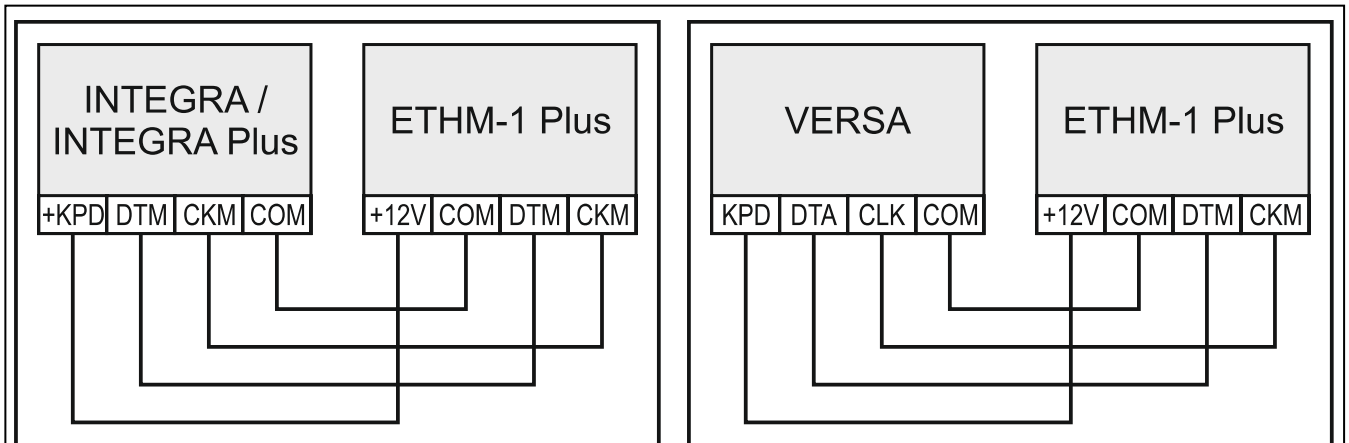

Fig. 2. Connecting the module to the control panel.
3. Connect the +12V, COM, DTM and CKM module terminals to the control panel terminals (Fig. 2). It is recommended that an unshielded non-twisted cable be used for making the connection. If you use the twisted-pair type of cable, remember that CKM (clock) and DTM (data) signals must not be sent through one twisted-pair cable. The wires must be run in one cable.